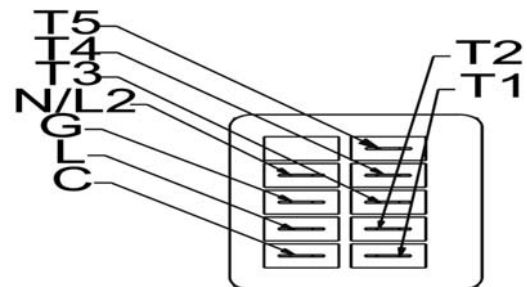

Figure 10: Constant Torque Motor Terminals
1. If the motor is not running, check for 240 VAC on the L1 and L2 terminals. Check 24 VAC at the motor terminals connected to the “W” and “C” terminal on the terminal block. If the 240 VAC and 24 VAC is present continue to the steps below. Refer to Figure 10 and Table 1 for terminal locations and definitions.
1. If the motor is not running, check for 240 VAC on the L1 and L2 terminals. Check 24 VAC at the motor terminals on the “Y” and “C” terminals on the terminal block. If the 240 VAC and 24 VAC is present continue to the steps below. Refer to Figure 10 and Table 1 for terminal locations and definitions.